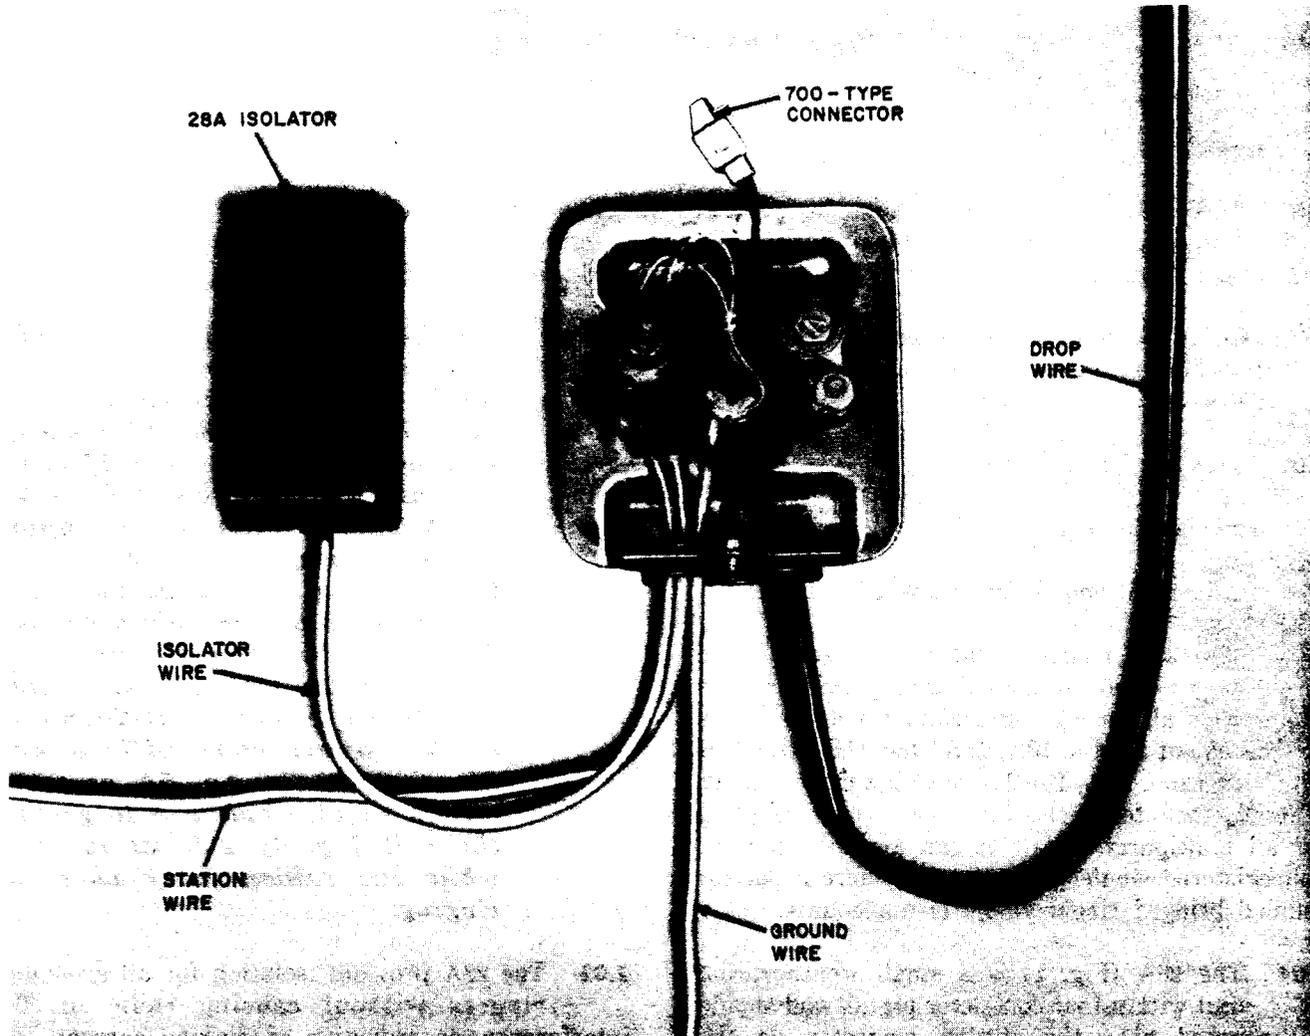

Fig. 1—28A Ringer Isolator, Typical Installation
1.04 The 28A (Fig. 1) is a small weatherproof unit with a four conductor pigtail and should be mounted near the station protector on the premises of the subscriber. One isolator is required at the protector for each customer line containing grounded ringer(s) (Fig. 1).
**3.01** Install the 28A near the station protector using the stainless steel mounting screws furnished with the isolator. The four conductor pigtail lead should come out of the bottom of the isolator and connect to the protector and inside wire (Fig. 1).